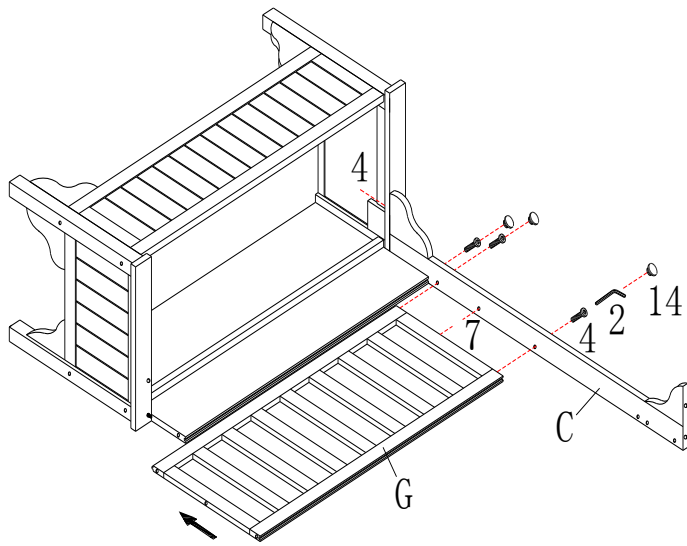
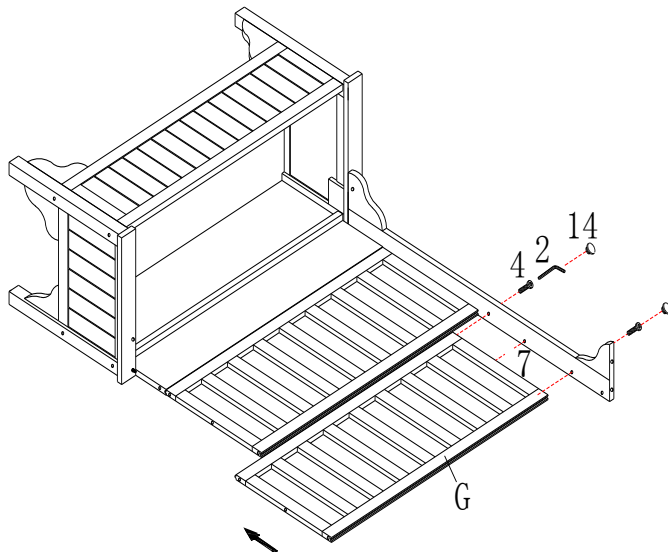
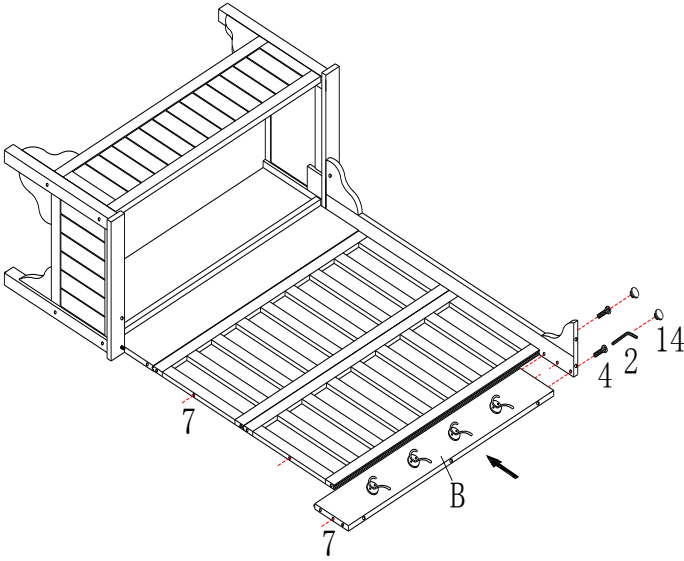
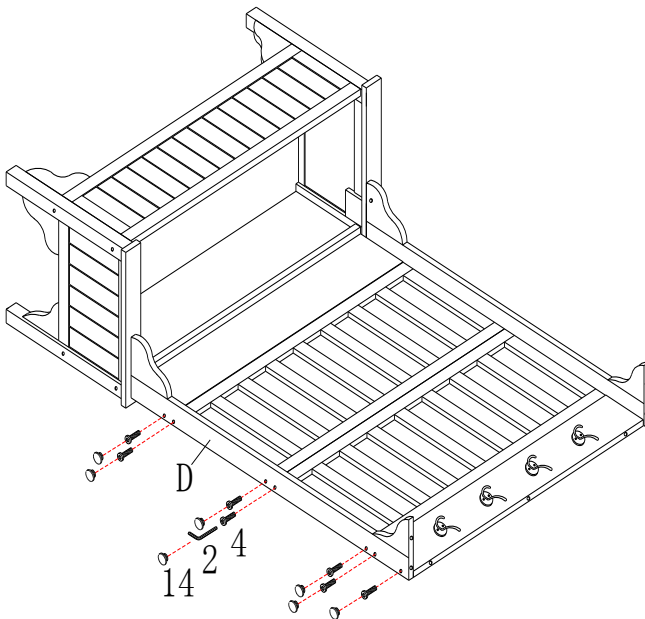

Figure 5
Figure 6
Figure 7
Figure 8
Use Bolts (4) to secure Left Frame (C) from underside of Left Storage Frame (E) and from side of Storage Back Panel (H) as shown in Figure 5.
Insert Middle Frame (G) into grooves of Storage Back Panel (H) and attach to Left Frame (C) using Bolts (4) and a Dowel (7) as shown in Figure 5.
Insert remaining Middle Frame (G) into grooves of Middle Frame (G) on unit from Figure 5. Connect remaining Middle Frame (G) to Left Frame (C) using Bolts (4) and a Dowel (7) as shown in Figure 6.
Insert Coat Rack (B) into grooves of Middle Frame (G) on unit from Figure 6. Connect Coat Rack (B) to Left Frame (C) using Bolts (4) and a Dowel (7) as shown in Figure 7.
Insert Dowels (7) into predrilled holes on unit from Figure 6.
Connect Right Frame (D) to unit from Figure 7 using Bolts (4) as shown in Figure 8.
Attach Top Panel (A) to unit from Figure 8 using Bolts (4) and Dowels (7).